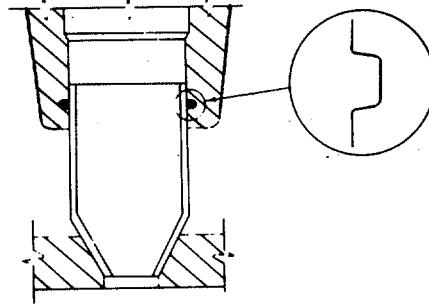

FIGURE 4-12. Installing Injector Sleeve O-Ring.
- (2) Installing New Sleeves.
- (a) Apply a coat of clean lubricating oil to injector sleeve preformed packing. Install the preformed packing into the groove in the bore for the sleeve (FIGURE 4-12).